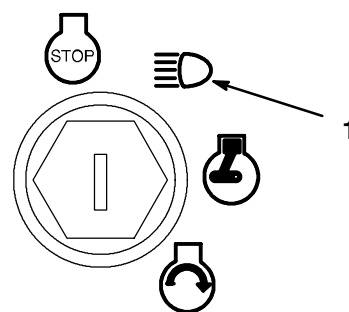

**Figure 19**
1. To adjust, move the lever sideways to unlock seat (Fig. 19).